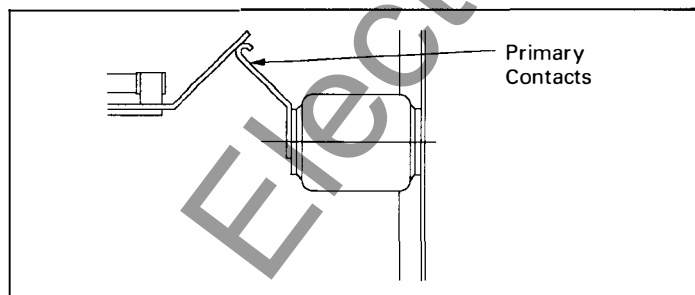
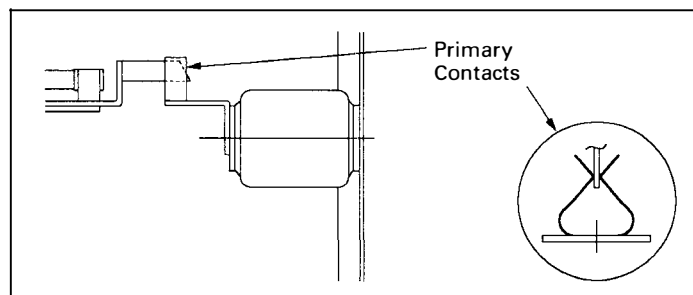

Figure 24. Butt-Type Contacts
Figure 25. Knife Blade Contacts
For rebuilding or replacement of parts it is necessary to determine whether the equipment has butt or knife blade primary contacts. See Figure 24 – Butt Type, and Figure 25 – Knife Blade Type. The same figures also apply, generally, for operating transformers and disconnect fuses.
For units built prior to mid-1971 with butt-type contacts (Fig. 24), the only parts available are fuses. If any other parts require replacement, it will be necessary to rebuild the entire PT, CPT or fuse compartment. Order the appropriate cradle assembly and installation kit. Strip the compartment and rebuild it per the instructions in the installation kit.
For units built after mid-1971 with knife blade contacts (Fig. 25) all parts are available and may be ordered from the appropriate tables.
If the contacts are knife blade-type (Fig. 25) select parts required from tables on page 32.
If the contacts are butt-type (Fig. 24) select PT cradle assembly from tables on page 31 and PT cradle installation kit from tables on page 30. Strip out the compartment, including the rear barrier item 22, and the bottom barrier item 21, on page 32. The door and door link remain intact.
If the contacts are knife blade-type (Fig. 25), select parts required from tables on page 34.
If the contacts are butt-type (Fig. 24), select CPT cradle and CPT installation kit from tables on page 33. Strip out the compartment, including the rear barrier item 22, and the bottom barrier item 21, on page 34. The door and door link remain intact.
If the contacts are knife blade-type (Fig. 25), select parts required from tables on page 35.
If the contacts are butt-type (Fig. 24), select fuse cradle, upper and lower stationary contacts, bottom barrier and ground bar from table on page 35.